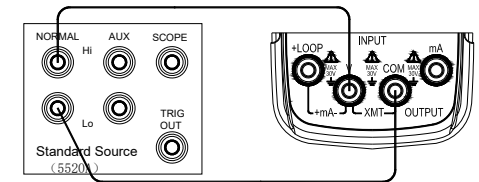

Figure 10-3
- 2) Connect to the Instrument as shown in Figure 10-3;
- 4) Set the output of standard source as the value given in Table 10-3 and when the output stabilized , press the key (100%/START) , and the LCD displays 'SAVE ', denoting that the calibrated point has been